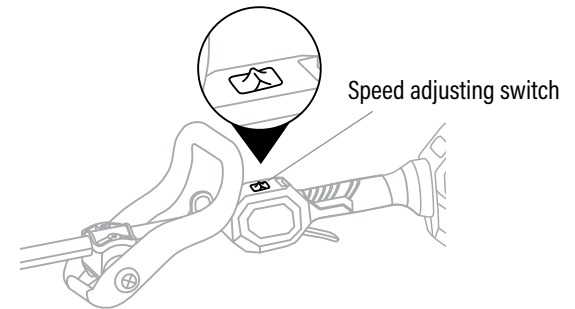

Fig. 9
2. Push the speed adjusting switch to "SPORT" for step-less speed regulation from 5000-8000RPM. And to "ECO" for fixing the speed of 6000RPM. (Fig. 9)